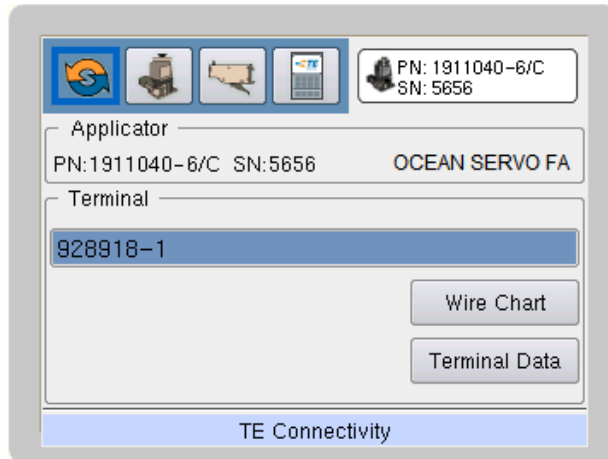

Figure 42
5. When a terminal is selected, the pop-up terminal list will disappear and the Run screen will be displayed with the selected terminal shown in the terminal box. See Figure 42.
1. Use the Up and Down navigation keys to highlight the Wire Chart pushbutton (shown in Figure 42).
1. Use the Up and Down navigation keys to highlight the Terminal Data pushbutton (shown in Figure 42).